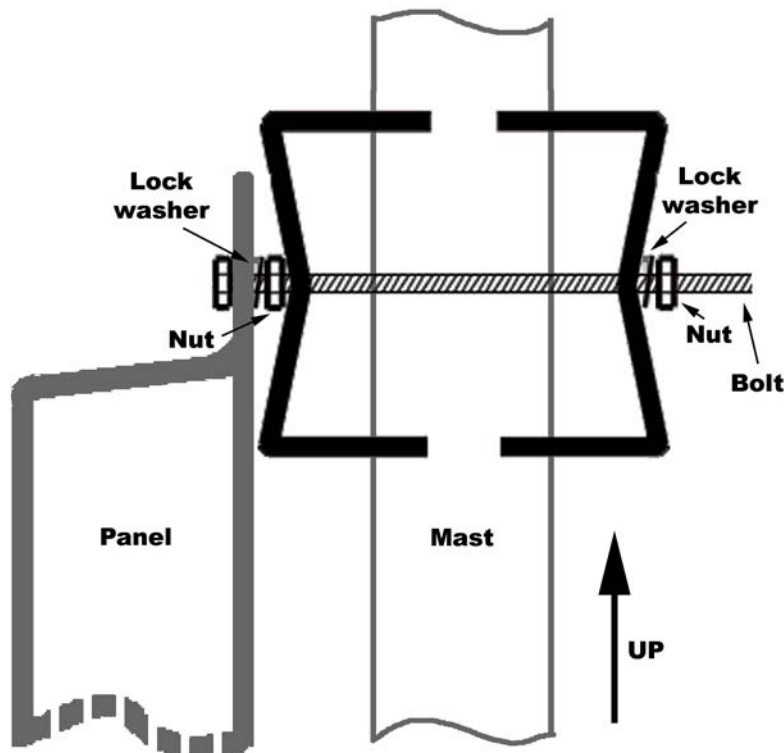

Figure 4-3 – Mast Mounting Clamp Install
- 4.3.1.1 Install the 3” bolts in the top mounting holes from the front side of the ANT-6DB-FLAT. Secure the bolts using lock washers and nuts. Install half of a clamp over the bolts from the back side of the ANT-6DB-FLAT. Making certain that the “V” portion of the half clamp is pointing away from the ANT-6DB-FLAT. (Figure 4-3)
- 4.3.1.3 Position the ANT-6DB-FLAT on the mast. (Figure 4-3)
- 4.3.1.4 Install the other half of a clamp on the back side of the mast at the top mounting position lock washers and nuts. Make certain that the “V” portion of the half clamp is pointing toward the mast. (Figure 4-3)